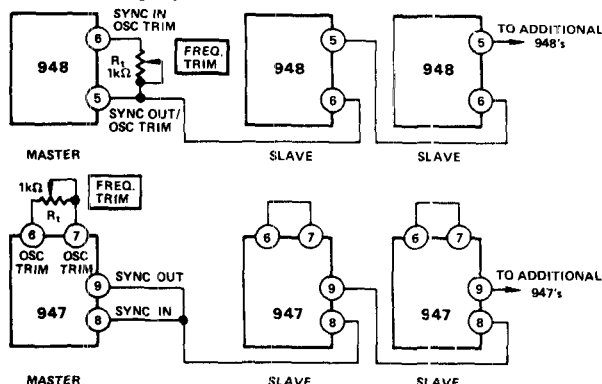

Figure 5. Model 948 and 947 Connections for Systems with Greater than 8 Channels
2 For applications requiring more than eight 288's, additional 947's or 948's may be used in a master/slave mode. Refer to Figure 5.
**Driver Synchronization:** A single model 947 or model 948 driver can be applied in systems having from 1 to 8 data channels, as shown in Figures 3 and 10. Additional model 947's and 948's may be driven in a slave-mode, as shown in Figure 5, to expand the total system channels from 8 to virtually any number of channels.
**Optional Oscillator Adjustment:** Models 947 and 948 provide the user with a method to trim the internal 100kHz oscillator over a range of  $\pm 5\%$  (95kHz to 105kHz). This feature may be used when an external noise is "beating" with the 100kHz oscillator and a small trim adjustment of the oscillator frequency will eliminate the resulting noise frequency. As shown in Figure 5, a trim adjust,  $R_t$ , is installed between the OSC TRIM terminals. No specification changes occur when this trim adjustment is employed.